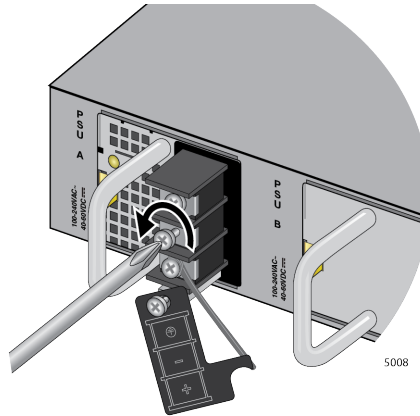

Figure 66. Loosening the Screw for the Negative (-)
3. Loosen the middle screw for the negative (-) with a Phillips-head screwdriver. Refer to Figure 66.